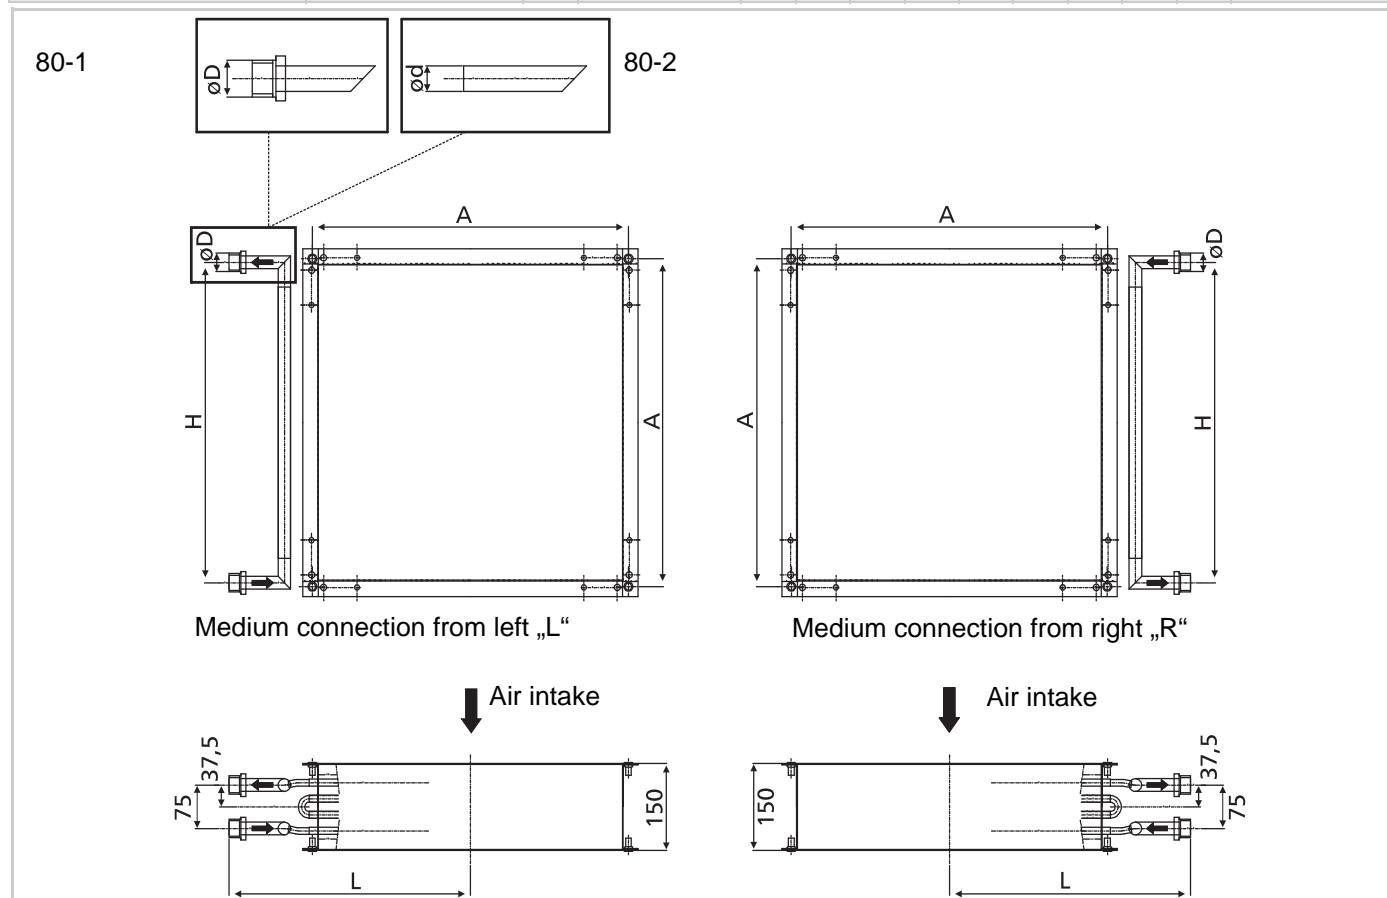

Fig. 80: HE Cu/Al or Cu/Cu with different pipe connections
- External screw thread connection (fig. 80, Position. 80-1)
- Smooth-bore pipe connection (fig. 80, Position. 80-2).